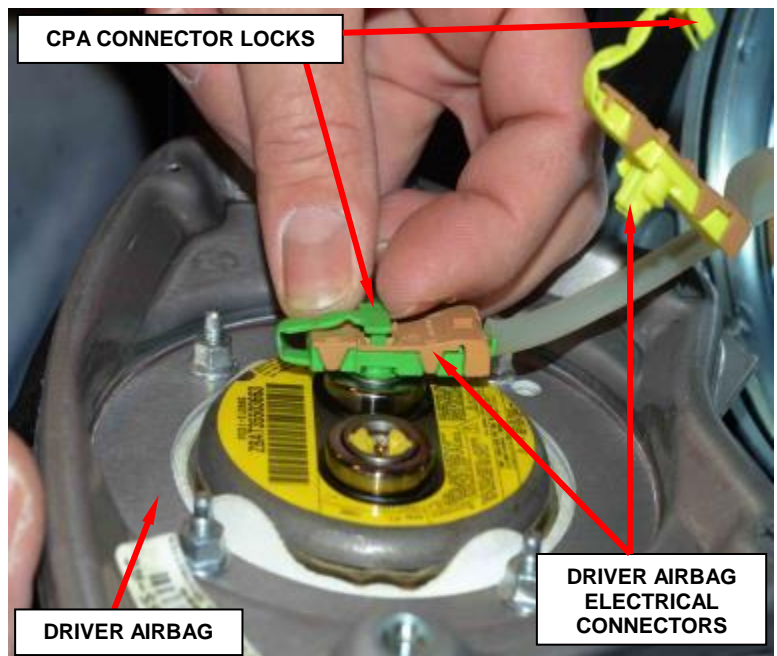

Figure 3 – CPA Connector Locks
4. Release the CPA electrical connector locks (Figure 3).
22. Fully seat the CPA electrical connector locks (Figure 3).